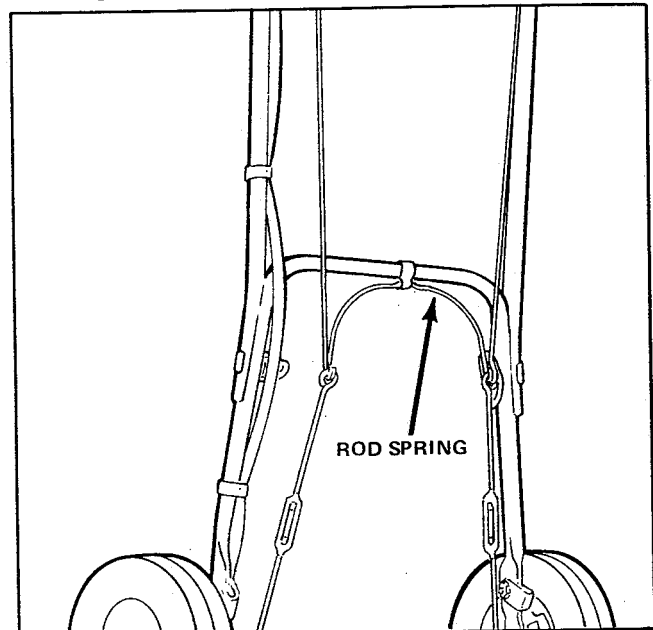

Figure 2. Attaching Rod Spring
3. Attach the rod spring to the loops in the upper engaging rods as shown in figure 2.